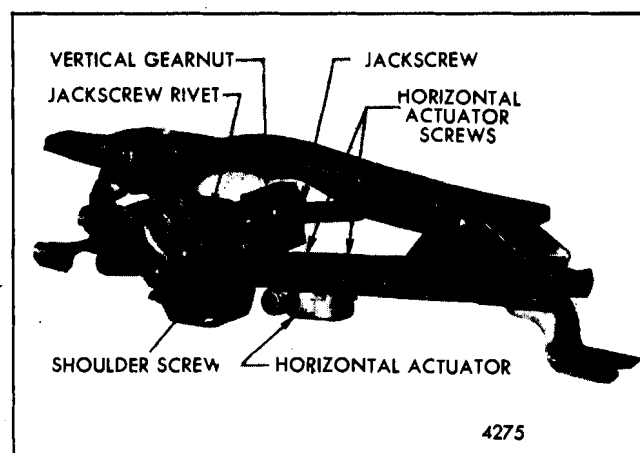

Fig. 14-15-Four-Way Seat Adjuster - "A" Styles
4. Using a clutch type screwdriver or other suitable tool, remove shoulder screws securing linkage to vertical gearnut being replaced (Fig. 14-15).
3. Remove screws securing horizontal actuator assembly to adjuster lower track; then remove actuator from adjuster assembly (Fig. 14-15).
3. As a bench operation, remove jackscrew-to-adjuster linkage attaching rivet and remove jackscrew from adjuster assembly (Fig. 14-15).